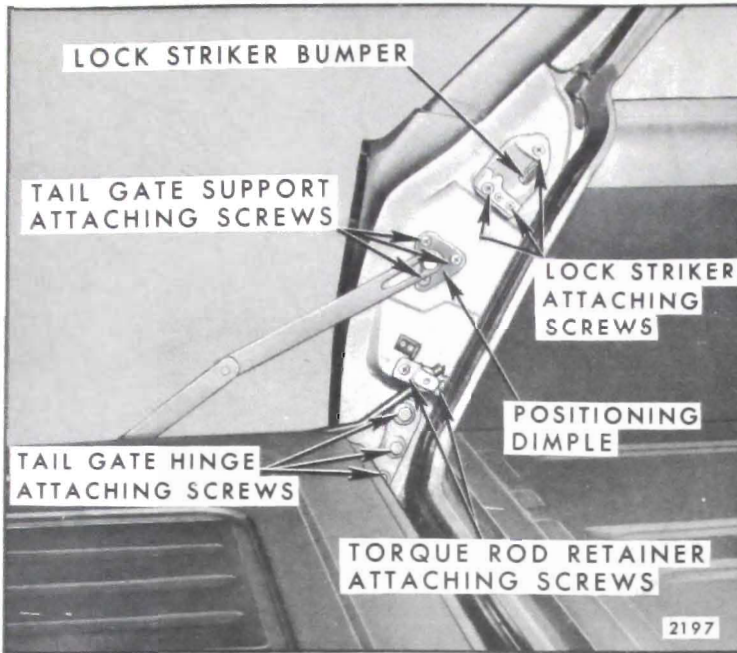
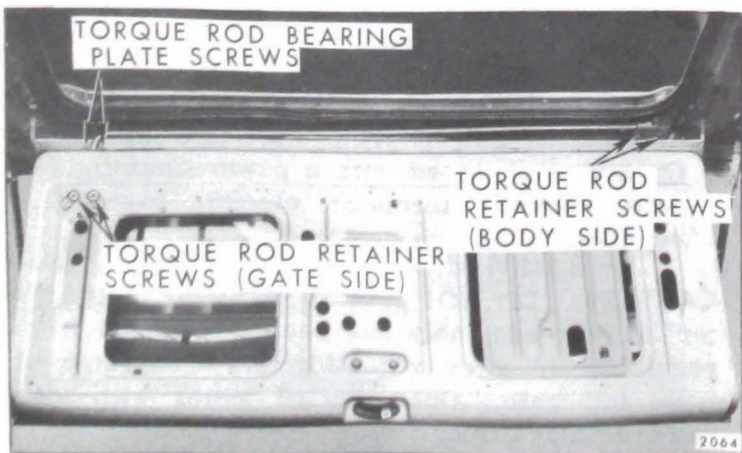

Fig. 9-29—Tail Gate Torque Rod, Hinge and Support Attachments "B & A" Body Styles
Fig. 9-34—Tail Gate Hardware "X" Body Styles
3. Remove tail gate hinge attaching bolts from tail gate and body (See Figs. 9-29 and 9-30.) and remove hinge from gate.
2. Remove screws securing support to tail gate and to body lock pillar and remove support. (See Figs. 9-29 and 9-30.)
2. Raise tail gate to an approximate vertical position to relieve torque rod tension. Remove torque rod retainer attaching screws and remove retainer. On "B & A" Body Styles, this retainer is on the left body pillar as shown in Figure 9-29. On "X" Body Styles, however, the retainer is located on the right side of the rear body cross bar. (See Fig. 9-34.)